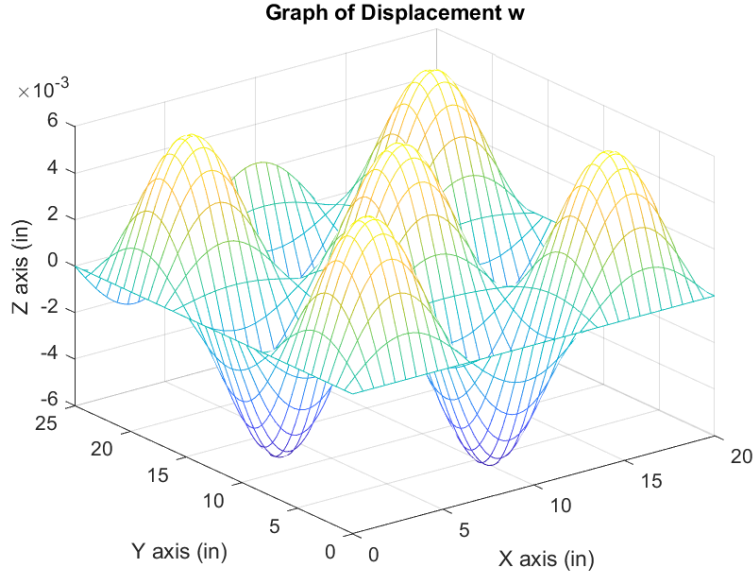

Figure 4:
Equation (2) was used to solve the  $W_0$  and the deflection equation is presented below. The distribution is then plotted in figure 4.